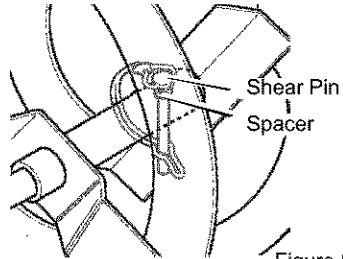

Figure 56
3. Align the hole in the auger with the hole in the auger shaft. Install the new **shear pin** and **spacer**. See Figure 56.